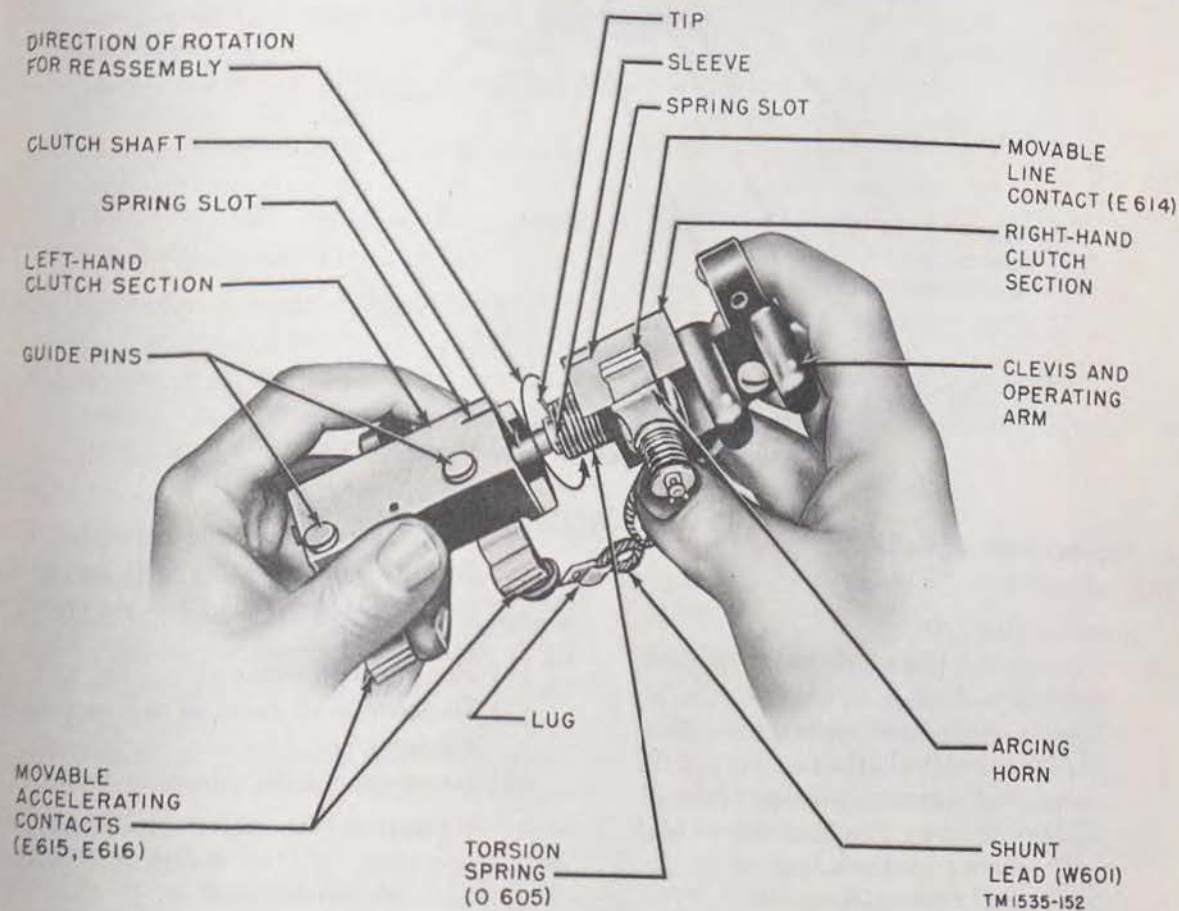
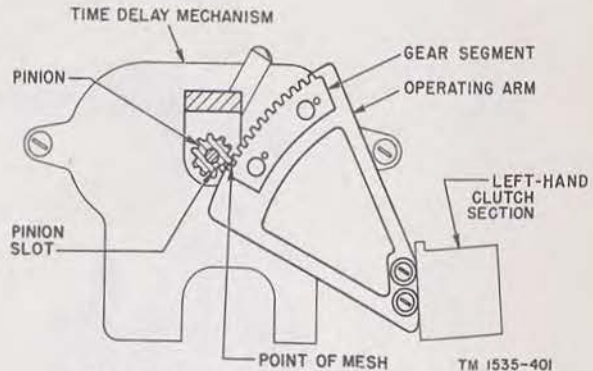

Figure 199. Clutch torsion spring adjustment.
Figure 201. Mechanical timer mechanism.
*c. Clutch Torsion Spring (O605), (fig. 199).*
- (7) Grasp the assembly in both hands (fig. 199). Pull the two sections slightly apart, and turn the left-hand section three-quarters of a turn (fig. 199).
- (8) Remove the left-hand clutch section from the clutch shaft by sliding it off.
- (9) Pull the old torsion spring (O 605, fig. 199) off the shaft.
- (10) Place a new torsion spring on the shaft,
- (11) Slide the left-hand clutch section on the clutch shaft in such a manner that the spring slot in the left-hand clutch section engages the other spring tip (fig. 199).
- (12) Rotate the left-hand clutch section three-quarters of a turn in the direction shown by the arrow in the illustration, and engage the two mitered shoulders with one another. Push the two sections all the way together.
- (13) Reassemble all parts in reverse order of disassembly.
**Caution:** When inserting complete clutch assembly into motor starter, make sure that the gear segment and pinion mesh correctly (fig. 201).
- (2) Remove mechanical timer.
- (3) Replace with new unit.
**Caution:** When replacing new mechanical timer, make sure that pinion engages gear segment on operating arm in proper manner (fig. 201).
- (4) Replace lockwashers and nuts, and tighten.